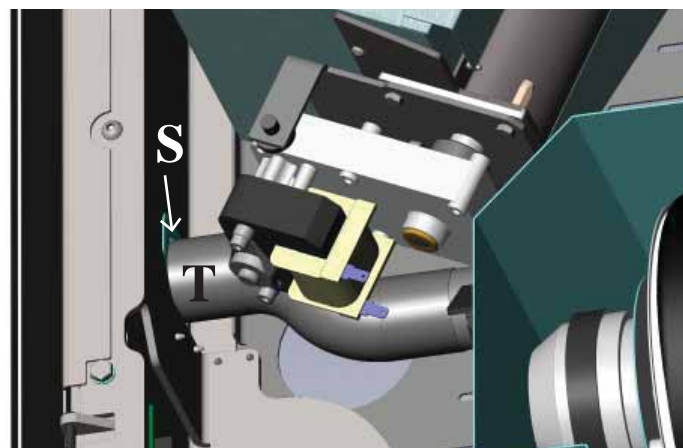

fig. 8
Open the left front door (fig. 8), detach the flexible pipe (T) from its support (S) and push it through the hole (U) on the back of the stove.